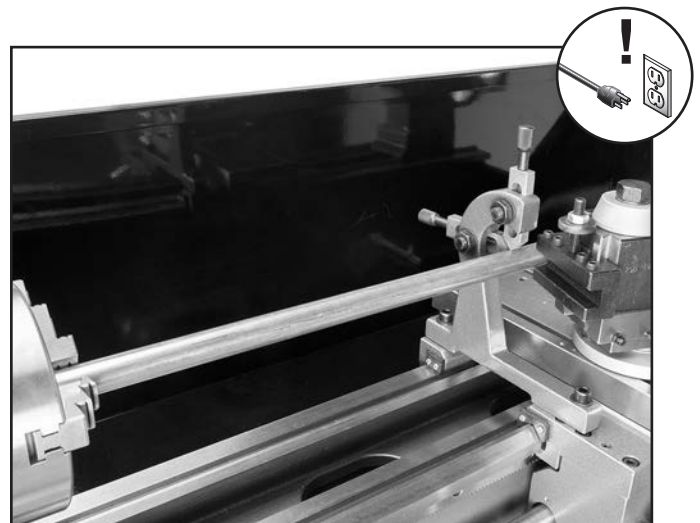

Figure 63. Fingers adjusted to touch workpiece.
4. Use finger adjustment knobs to position fingers so they just touch workpiece (see **Figure 63**) without causing deflection, then tighten finger lock nuts.